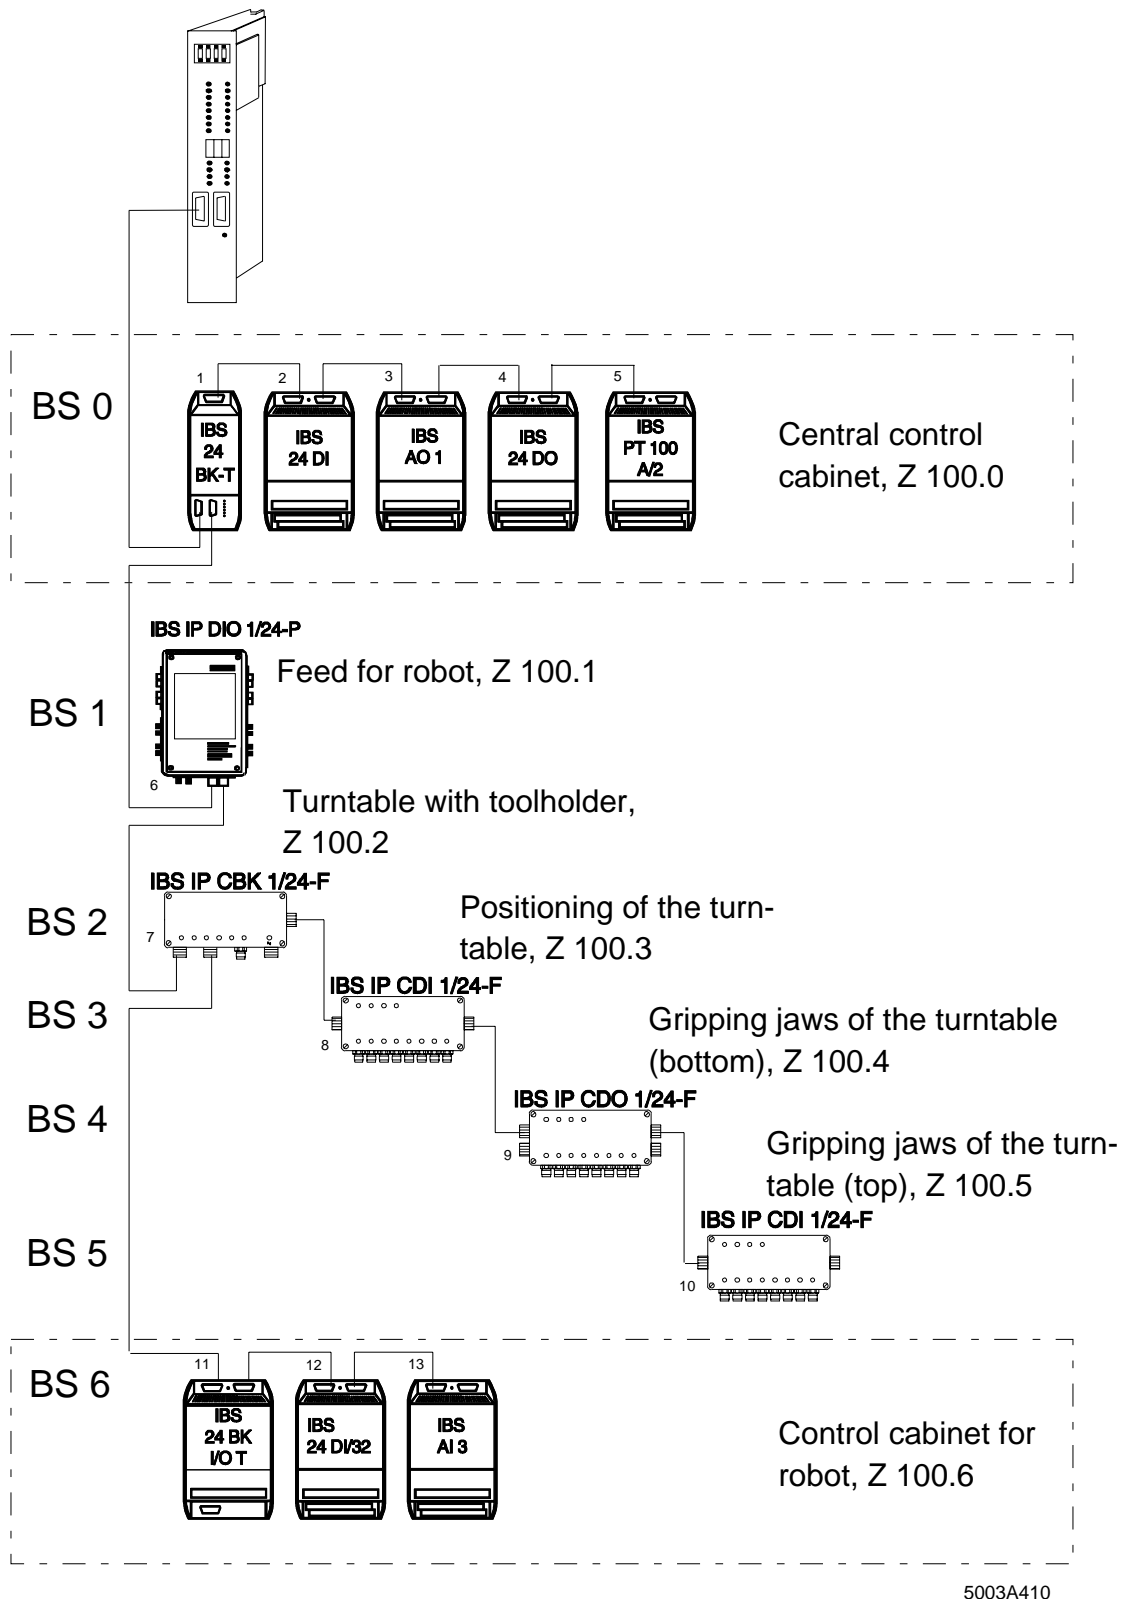

Figure 4-13: Demo system (corresponds to the topology from Chapter 3)
Figure 4-13 gives an overview of the demo system. Figure 4-14 lists the bus segments (BS) 1 through 6 in a table. You may use the following form (Figure 4-15) to enter modules of your own system.